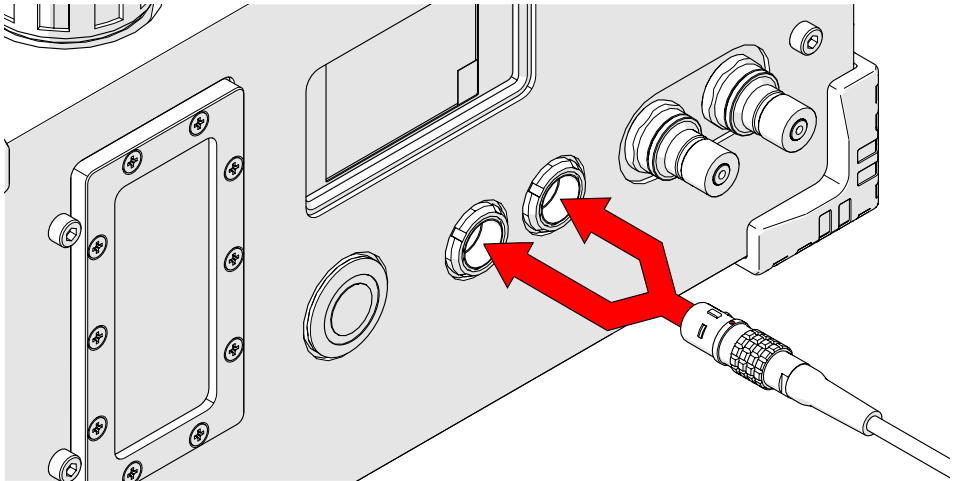

Fig. 11 - Plug into AUX port
1. Align the connector's red dot with the top of the AUX port. Press the connector into either AUX port on the Cooler (Fig. 11).